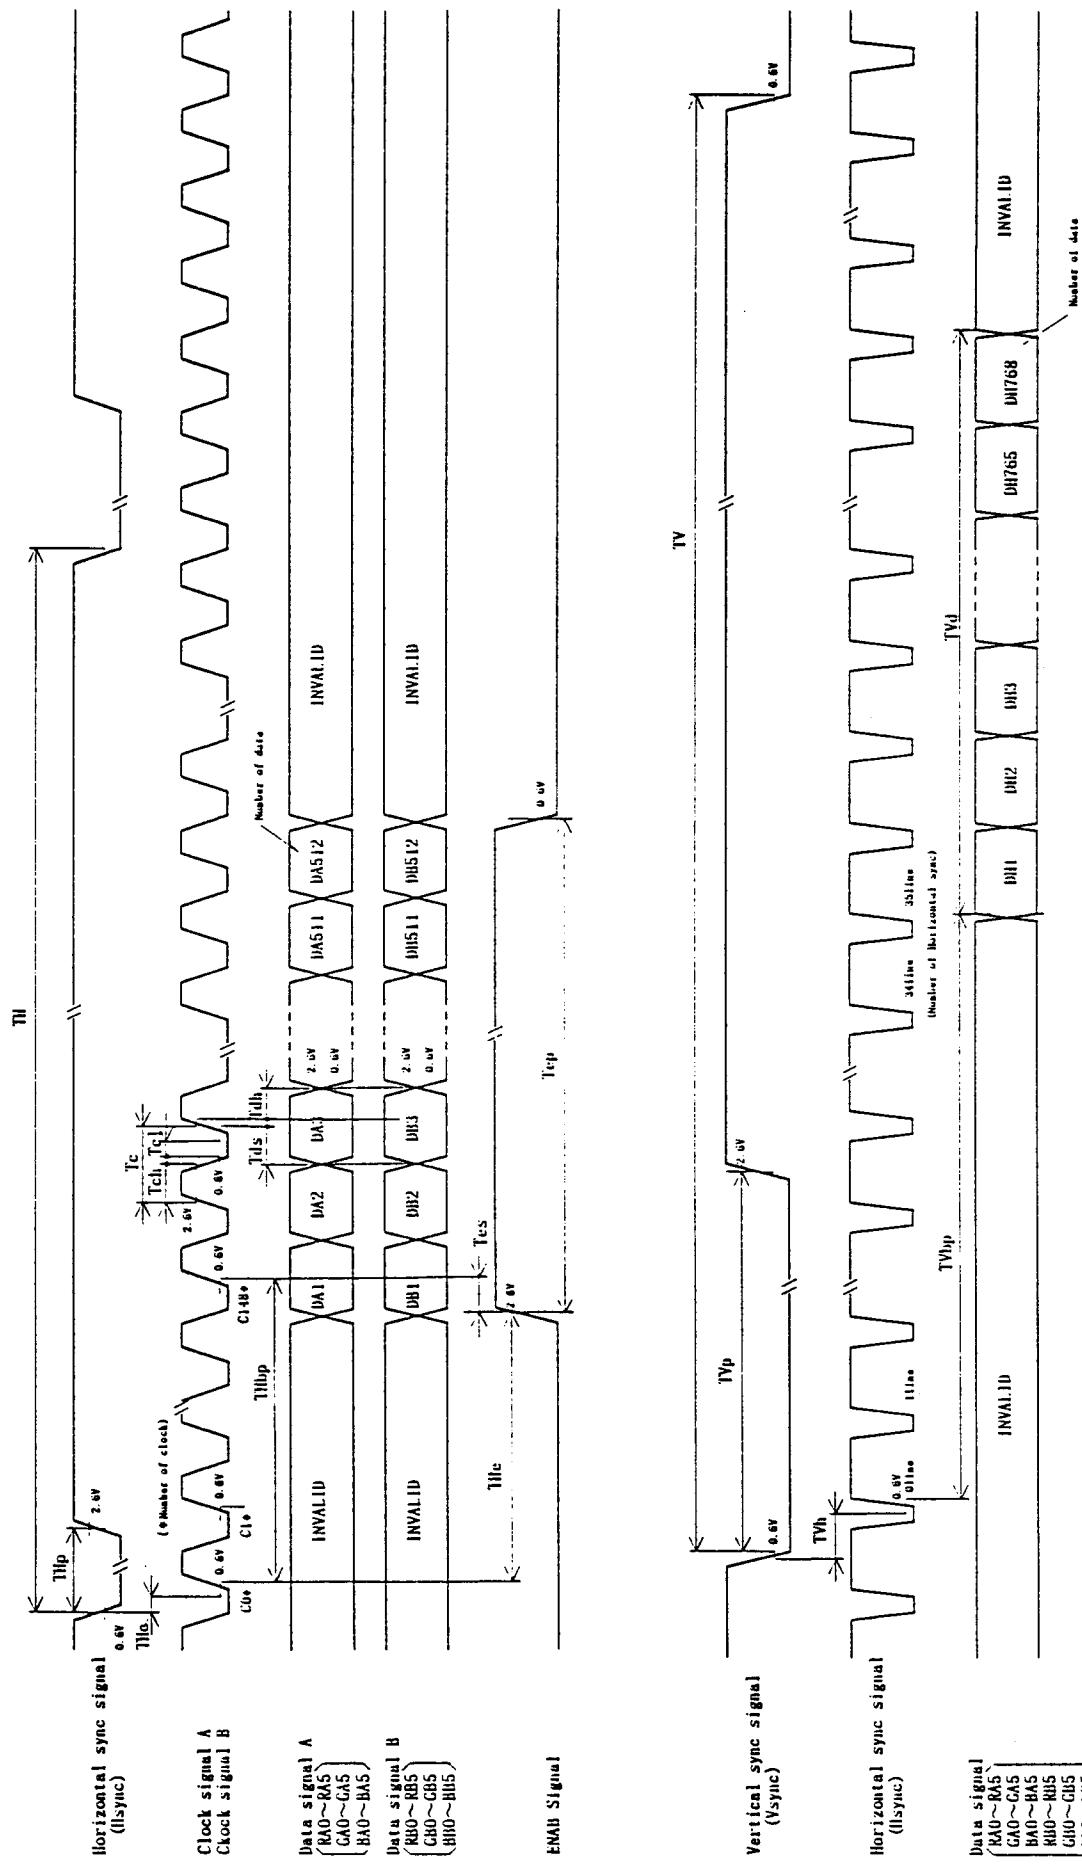

Fig.2 Input Signal Waveforms (H-V Mode)
Timing diagrams of input signal are shown in Fig.2.
- ② When ENAB is fixed "Low", the display starts from the data of C148(clock) as shown in Fig.2.
The vertical display start position is the 35th line from the falling edge of Vsync.(cf. Fig.2)